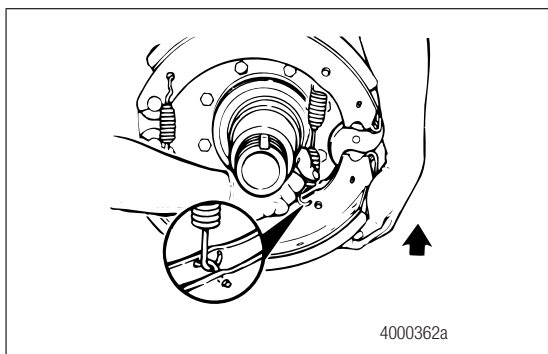

Figure 5.15
3. Rotate the lower brake shoe forward. Install a new brake shoe return spring with the open end of the spring hooks toward the camshaft. Figure 5.15.